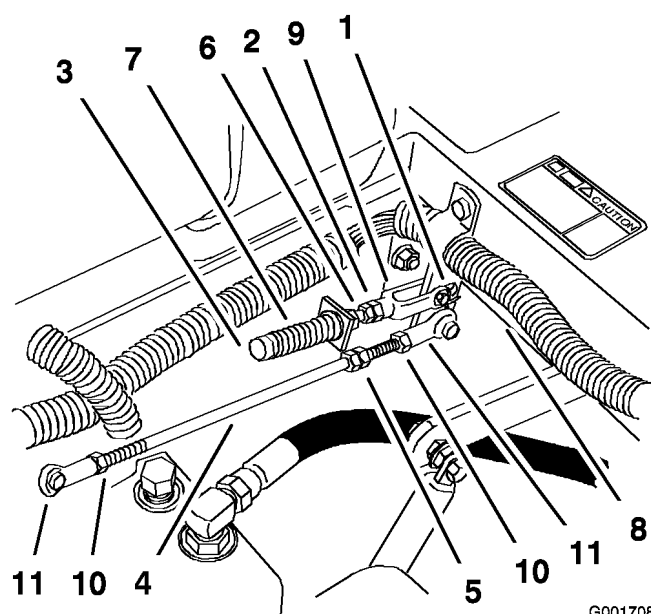

Figure 63
1. Loosen the locknuts at the ball joints on the pump control rod (Figure 63).
3. Adjust the pump rod length by rotating double nuts on rod, in the appropriate direction, until wheel is still or slightly creeps in reverse (Figure 63).
6. Tighten the locknuts at the ball joints (Figure 63).